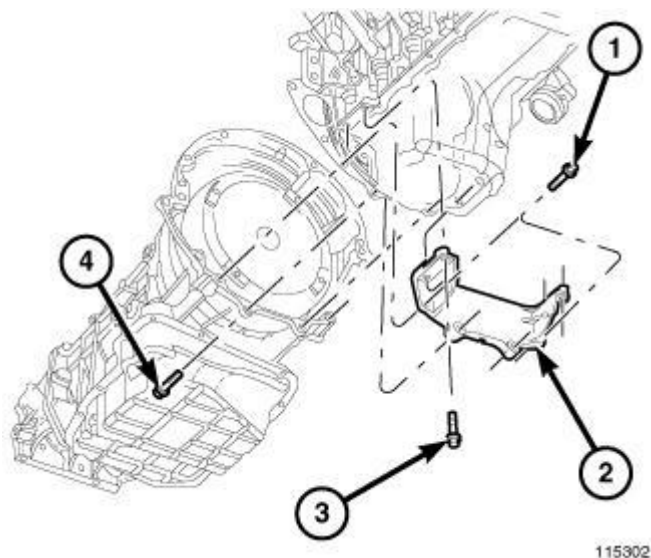

Fig. 175: Structural Cover
4. Starting with the two rear cover-to-engine bolts, tighten bolts (1) to 54 N.m (40 ft. lbs.), then tighten bolts (2) and (3) to 54 N.m (40 ft. lbs.) in the sequence shown in **Fig. 175**.